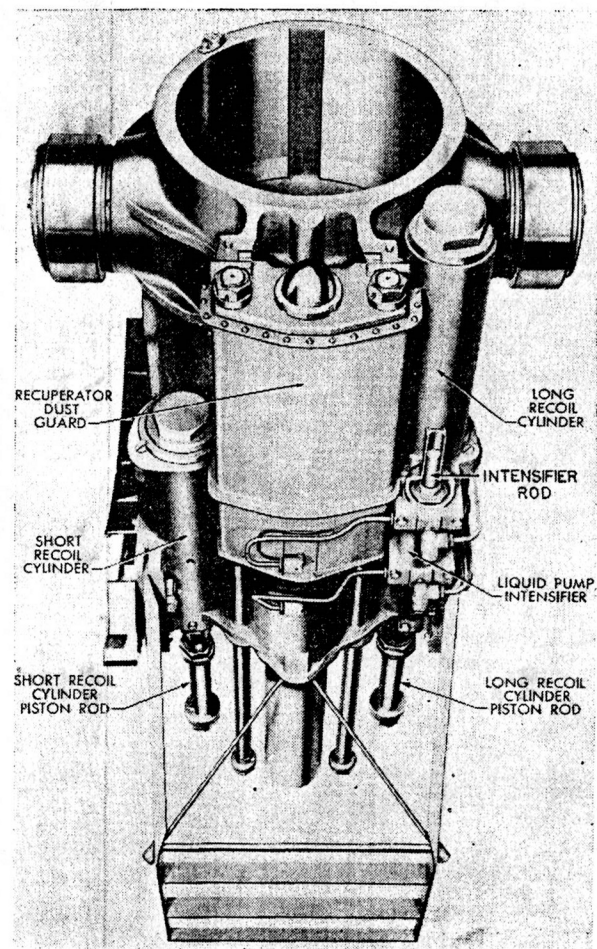

FIGURE 12.—Bottom view of cradle and recoil mechanism.
■ 43. RECOIL MECHANISM.—*a. General.*—The recoil mechanism is contained in two recoil cylinders, one long and one short, fitted into the lower section of the cradle, and one recuperator cylinder located between the two recoil cylinders (fig. 12). The recoil cylinders must be completely filled with recoil oil at all times. The air pressure in the recuperator must be kept constantly at 1,600 pounds per square inch as the air under this pressure holds the gun in battery when elevated; and when further compressed during recoil, it returns the gun to battery in counterrecoil. The proper amount of oil must be kept in the intensifier as this device controls the liquid seal which maintains a tight joint between the two halves of the recuperator. The amount of oil in the intensifier is indicated by the distance the piston rod protrudes from the front of the intensifier. The end of the piston rod must be kept between the prescribed limits of 0 and 7 on the indicator scale. The recoil cylinder, intensifier, oil tubes, and fittings should be examined regularly for leakage of oil.